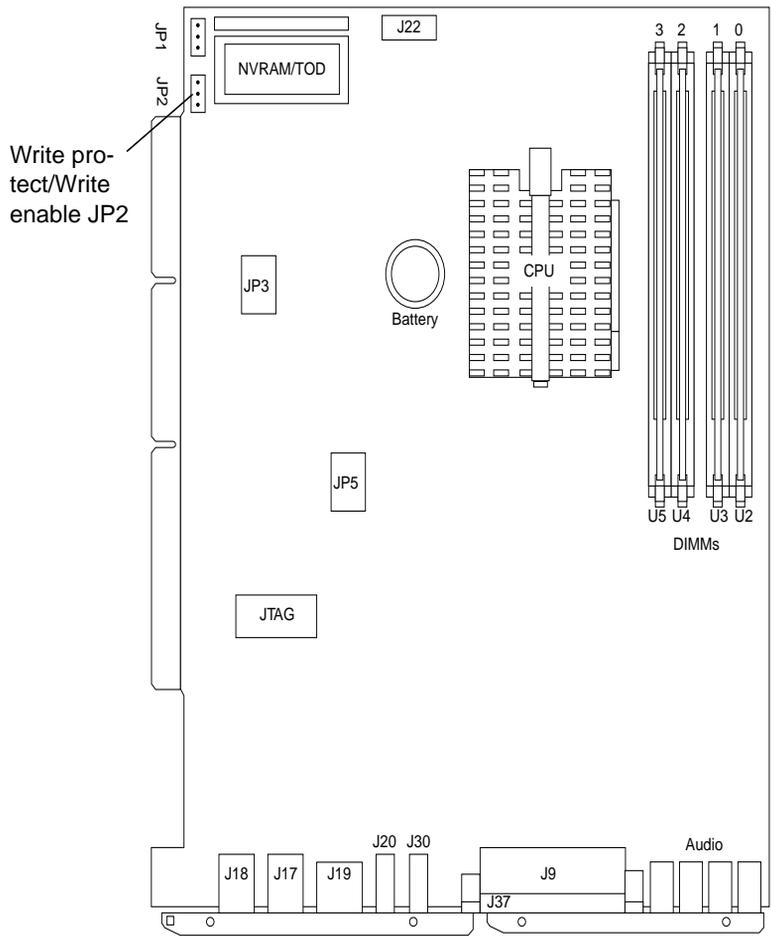

FIGURE 1-9 Sun Blade 100 Flash PROM Location on Motherboard
- For a Sun Blade 100 system, see FIGURE 1-9 on page 1-8.